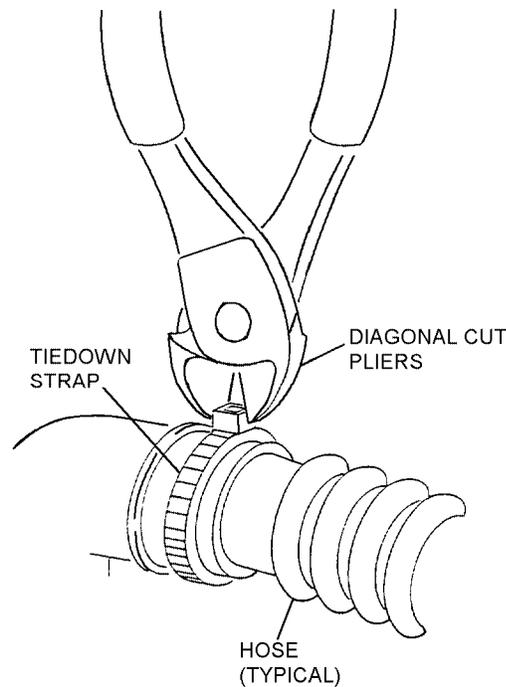

Figure 6-15. Tiedown Strap Removal
- a. Using diagonal cut pliers cut the head of tiedown strap in half laterally from above. Do not attempt to cut under tiedown strap head (see figure 6-15).
b. To remove tiedown straps, refer to figure 6-15 and use diagonal cut pliers.